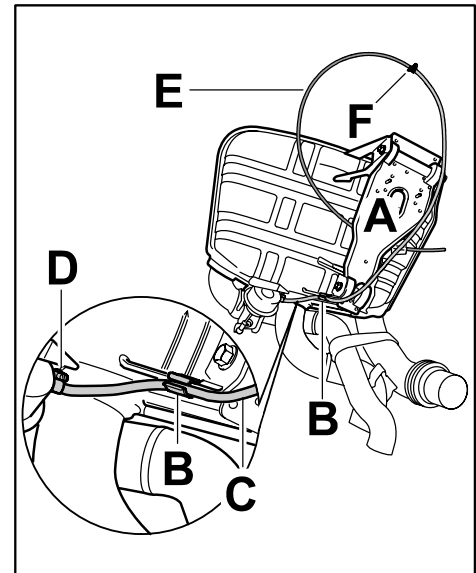

Figure 4
- 1.4.1 Remove stop-chock holder (⇒ *Figure 4 -A-*) from the old rear muffler and fit it on the new rear muffler using new M8 nuts (2 x 900.380.005.09).
- 1.4.2 Clip in hose clip (1 x 999.591.746.02; ⇒ *Figure 4 -B-*) on the web plate bearing (small) of the stop-chock holder (see Inset, ⇒ *Figure 4*).
- 1.4.3 Connect hose (1 x 999.181.295.40; ⇒ *Figure 4 -C-*) to the connection nipple on the vacuum unit and secure with a hose clamp (1 x 999.512.361.02; ⇒ *Figure 4 -D-*).
- 1.4.4 Clip hose (999.181.295.40; ⇒ *Figure 4 -C-*) into the hose clip (999.591.746.02; ⇒ *Figure 4 -B-*) on the web plate bearing (small).
Insert line (1 x 999.181.374.40; ⇒ *Figure 4 -E-*) at least 15 mm into the hose (999.181.295.40).
- 1.4.7 Secure hose (⇒ *Figure 4 -C-*) and line (⇒ *Figure 4 -E-*) with a hose clamp (⇒ *Figure 4 -F-*).